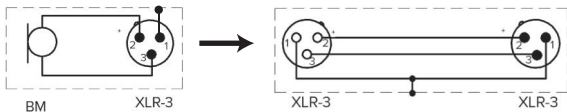

fig. 9
1. Connect the microphone to the mixing console or audio interface by XLR-3 microphone cable (fig. 9)